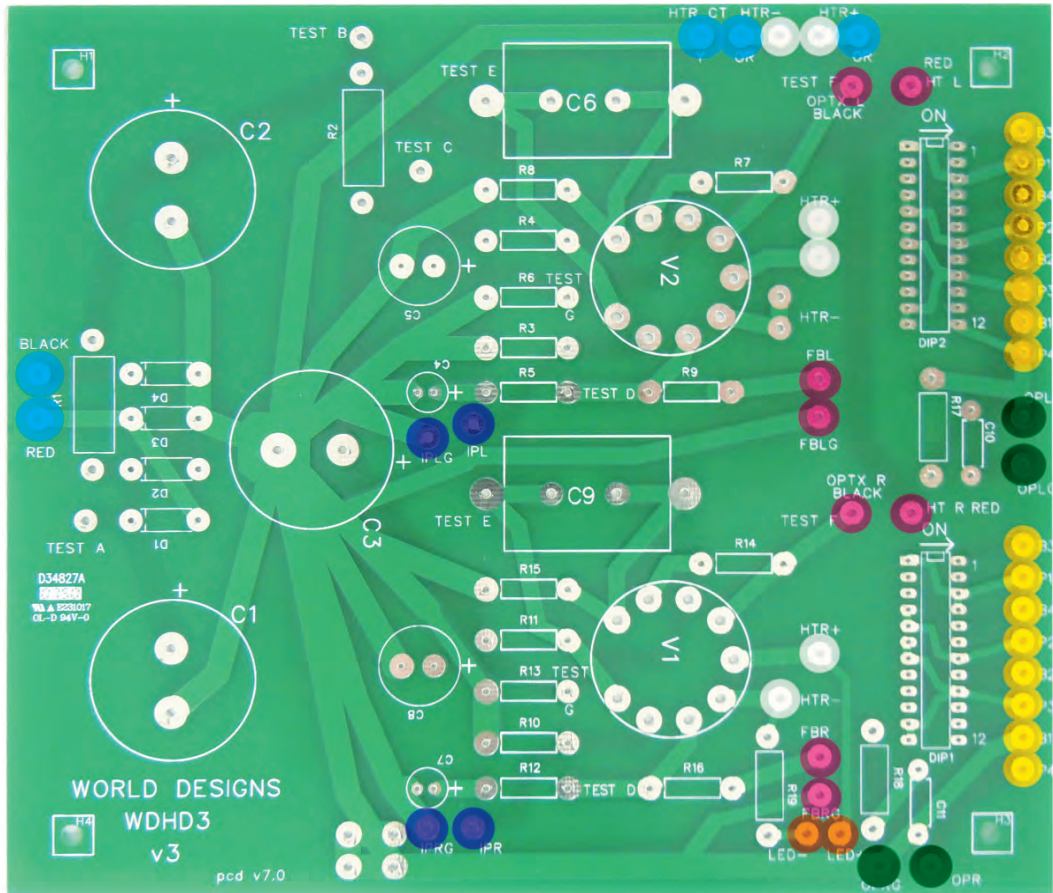

Fig. 7 PCB Pin and Heater Link Positions
**Figs. 7 / 10** We have highlighted the PCB pin positions in colour on the photograph overleaf so that you can find them easily (the picture also shows the soldering points for the heater links, highlighted in white). Solder the pins so that they project on the component side of the board in the following positions:
POWER SUPPLY: HTR CT Y, HTR- OR, HTR+ OR, BLACK, RED (5 pins, highlighted in light blue in Fig. 7)
OUTPUT TRANSFORMER PRIMARIES / TERTIARIES: OPTXL BLACK, RED HT L, FBL, FBLG, OPTXR BLACK, HT R RED, FBR, FBRG (8 pins, highlighted in red in Fig. 7)
OUTPUT TRANSFORMER SECONDARIES: B3, P1, B4, P2, B2, P3, B1, P4 for both channels (16 pins, highlighted in yellow in Fig. 7)
INPUTS: IPL, IPLG, IPR, IPRG (4 pins, highlighted in dark blue in Fig. 7)
OUTPUTS: OPL, OPLG, OPR, OPRG (4 pins, highlighted in green in Fig. 7)
LED: LED-, LED+ (2 pins, highlighted in orange in Fig. 7)
We have highlighted the solder points for the heater links in white on the photograph at Fig. 7 so that you can find them easily. Note that the links should be fitted to the **solder** side of the PCB and care should be taken to ensure that the sharp ends of the components, where they are soldered through the PCB, do not damage the insulation of the wires. Taking twisted pairs of brown and grey wire, use the brown wires to connect point HTR+ (next to pin HTR+ OR) to HTR+ at V2 and onwards to HTR+ at V1. Similarly, using the grey wires, connect HTR- (next to pin HTR- OR) to HTR- at V2 and onwards to HTR- at V1.